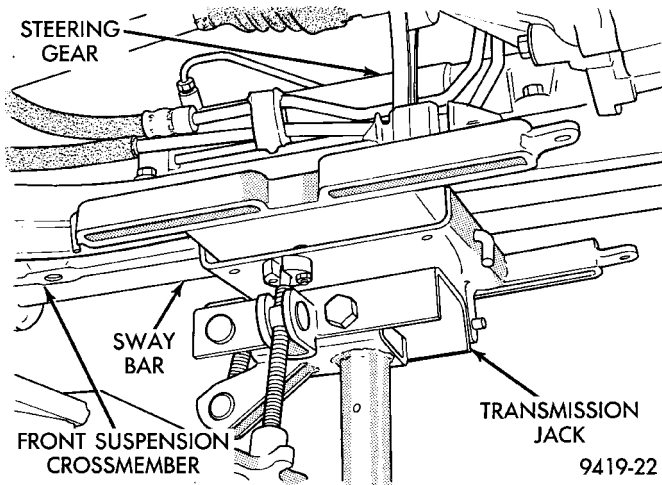

Fig. 12 Supporting Front Suspension Crossmember
(11) Position a transmission jack under the center of the front suspension crossmember (Fig. 12). Transmission jack is used to lower, support and raise front suspension crossmember when removing steering gear assembly.